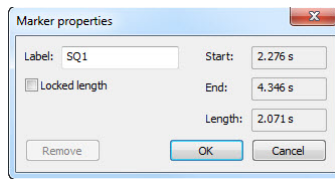

Figure 268 – Marker properties dialog
4. Release the left mouse button. The **Marker properties** dialog will be displayed automatically (see Figure 268).